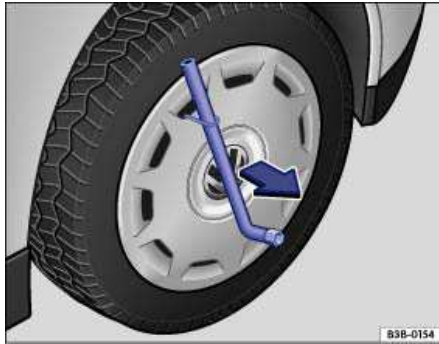

Fig. 189 Pulling the wheel cover off.
- ☐ Slide the lug wrench through the clip ⇒ fig. 189 and pull the wheel cover off in the direction of the arrow.